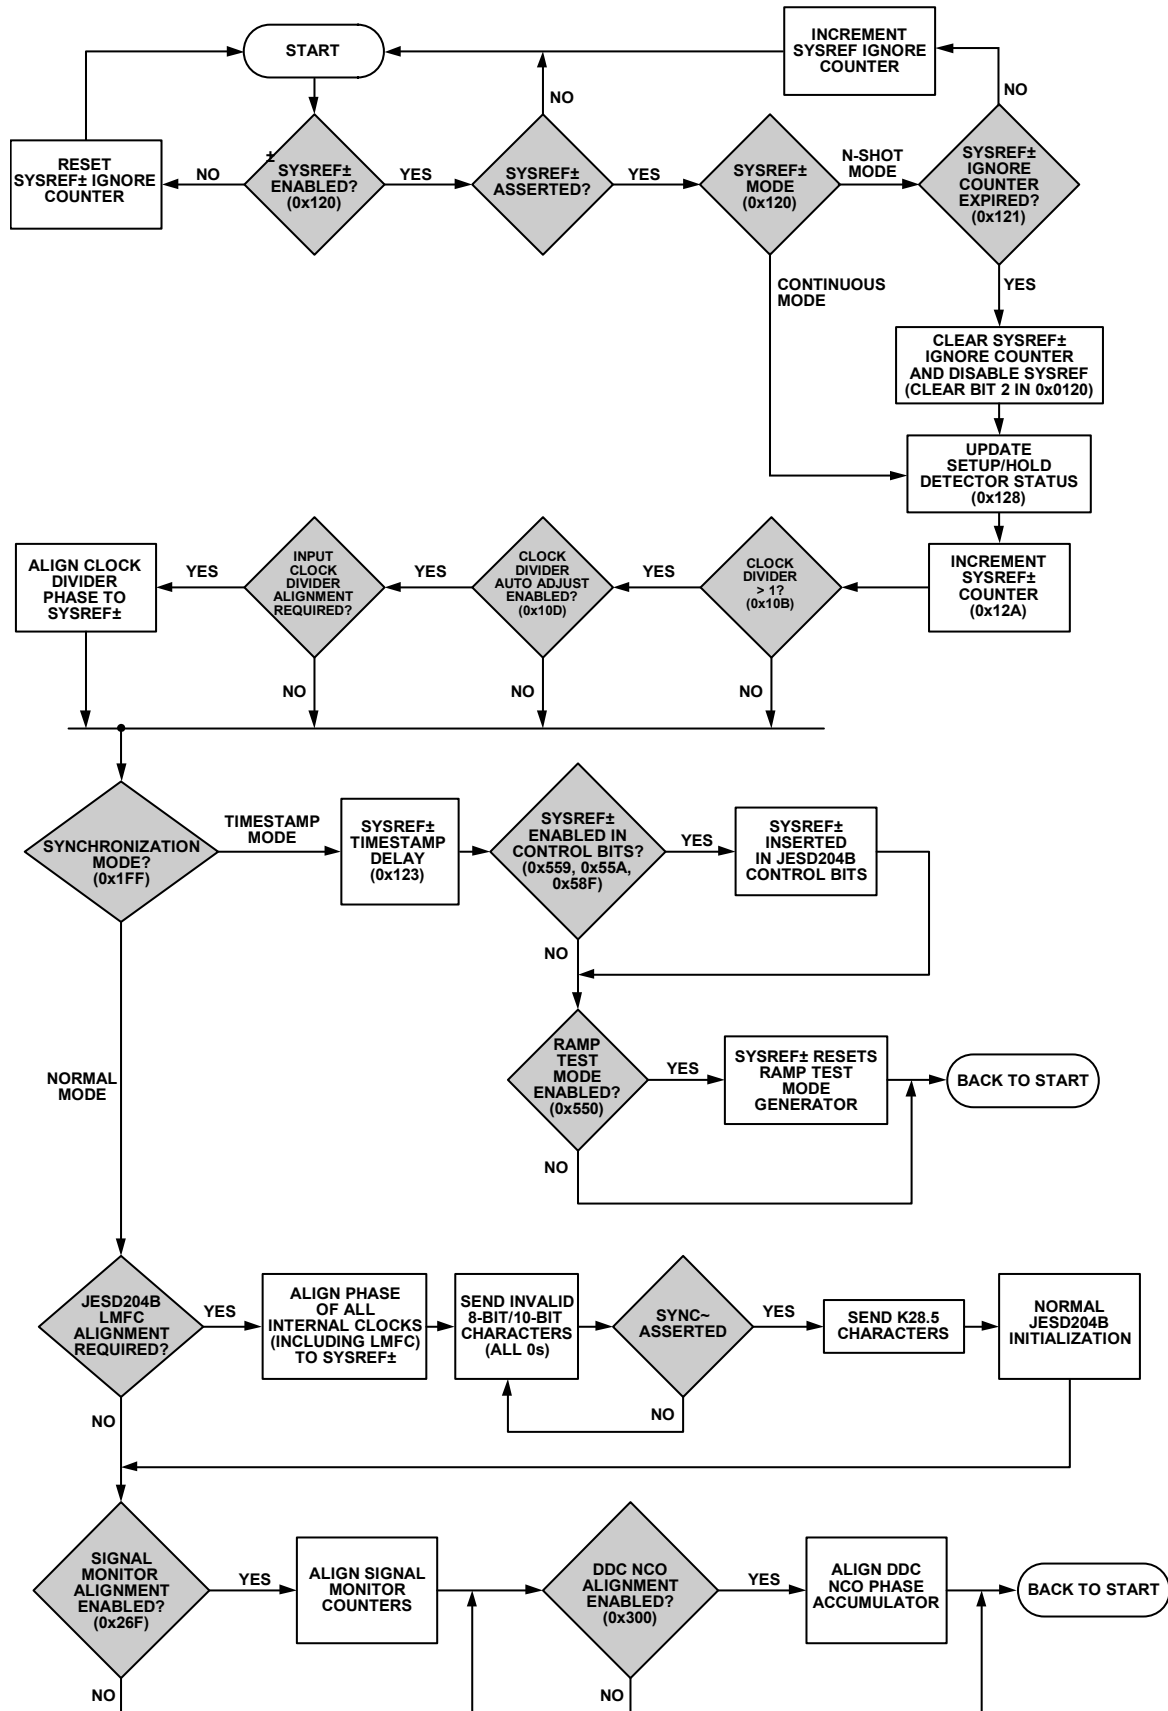

Figure 107. SYSREF± Capture Scenarios and Multichip Synchronization
The flowchart shown in Figure 107 describes the internal mechanism for multichip synchronization in the AD9234. There are two methods by which multichip synchronization can take place, as determined by the chip synchronization mode bit (Register 0x1FF, Bit 0). Both methods involve different  $\text{SYSREF}\pm$  signal applications.
The default state of the chip synchronization mode bit is 0, which configures the AD9234 for normal chip synchronization. The JESD204B standard specifies the use of  $\text{SYSREF}\pm$  to provide deterministic latency within a single link. This same concept, when applied to a system with multiple converters and logic devices, can also provide multichip synchronization. In Figure 107, this is referred to as normal mode. Following the process outlined in Figure 107 ensures the AD9234 is configured appropriately. Consult the respective ASIC or FPGA user intellectual property (IP) guide to ensure the JESD204B receivers are configured appropriately.